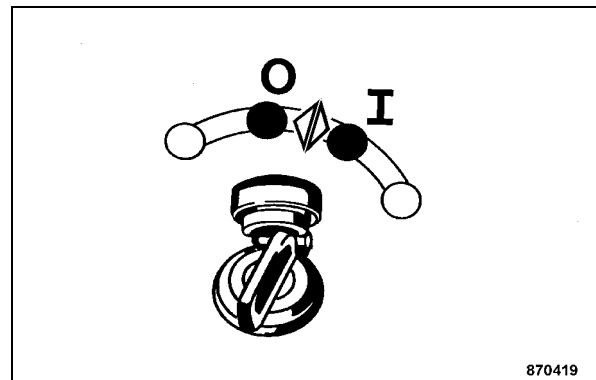

Fig. 82
- Switch the ignition off and on again (Fig. 82).